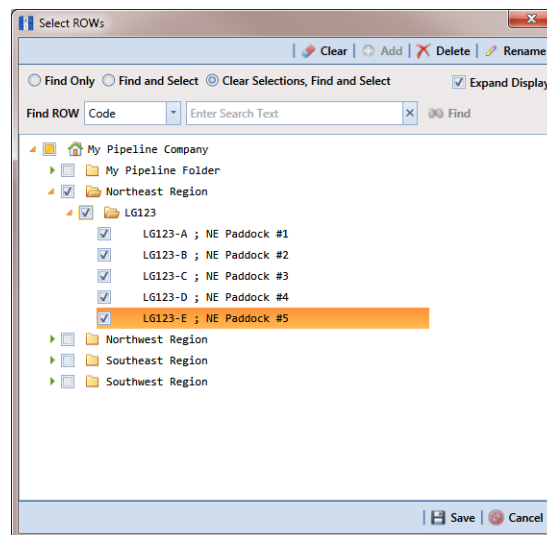

Figure 6-3. Select ROWs
- 1 Click the **Select ROWs** button  to open the *Select ROWs* window (Figure 6-3). Select the pipeline segment(s) with the facilities you want to work with, then click  **Save** to close the window.
- 1 Click the **Select ROWs** button  to open the *Select ROWs* window. Select the pipeline segment(s) associated with the continuous survey folder you want to delete. Then click  **Save** to close the window (Figure 6-3, page 187).
- 1 Select one or more pipeline segments in the *Select ROWs* window. Click  **Save** to close the window (Figure 6-3, page 187).